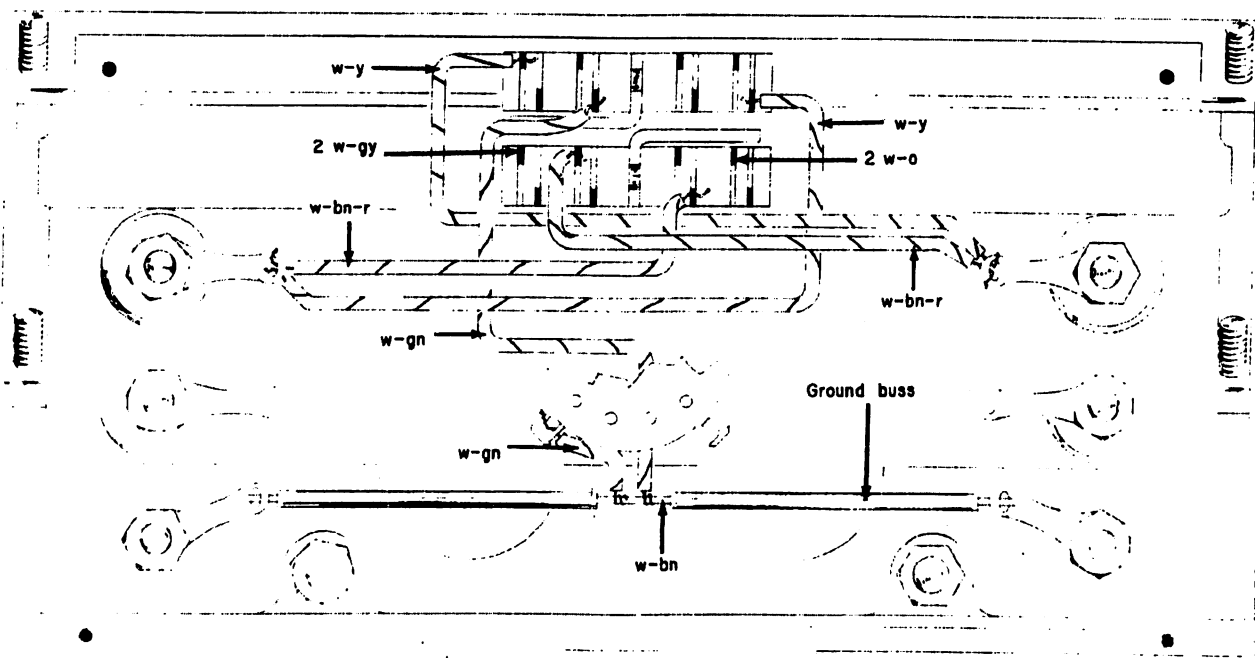

FIG. 9
- () 33. Add a ground lug, a no. 16 buss wire and two lengths of tubing (from kit), as shown in Fig. 9. (Disregard this step for instruments which already have a ground buss.)
- () 34. Solder the white-green wire from the Transistor Selector switch to the center of the ground buss (see Fig. 9).
- () 35. Solder the white-green wire from EMITTER GROUNDED - BASE GROUNDED switch to the center of the ground buss (see Fig. 9).
- () 36. Solder the two white-yellow wires from the Selector switch to the Collector Test terminals, as shown in Fig. 9. (Some instruments already have two white-yellow wires connected to the test terminals. If so, remove and discard them.)
- () 37. Solder the two white-gray, the two white-orange and the two white-brown-red wires to the Selector switch, as shown in Fig. 9.
- () 41. Locate the white-brown wire, previously grounded inside the Test Panel. Solder it to the center of the ground buss, as indicated in Fig. 9.